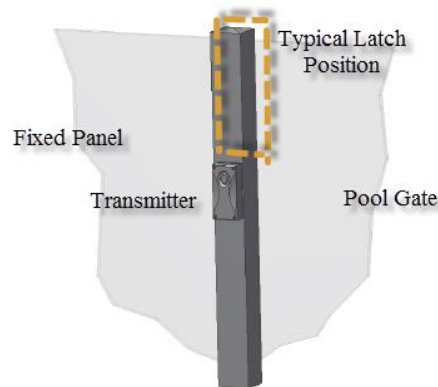

Figure 10
8. Remove the red cover film from the adhesive strip and press the transmitter assembly onto the prepared surface of the square post so that the side of the transmitter assembly nearest the gate is flush with the edge of square post (figure 10)